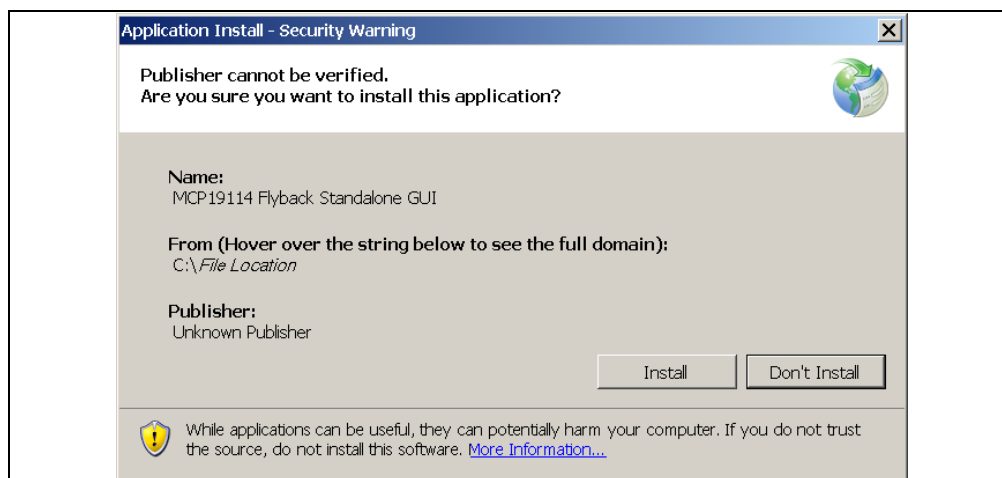

FIGURE 2-1: MCP19114 - Flyback Stand-Alone GUI Installation Window.
3. Double-click the `setup.exe` file to start software installation. Press the **Install** button in the Application Install window (Figure 2-1). Once the installation completes, the GUI window will open (see Figure 3-1 in Chapter 2. "Installation and Operation").